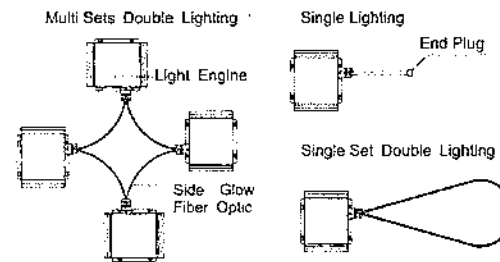

Fig.25
1.Side Lighting Fiber Optic: (see Fig.25).